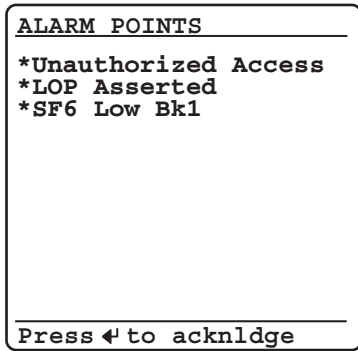

Figure 19 Sample Alarm Points Screen
*Figure 19* shows a sample alarm points screen. The relay can display as many as 66 alarm points. The relay automatically displays new alarm points while in manual-scrolling mode and in autoscrolling mode. You can configure the alarm points message and trigger it either immediately by using inputs, communications, or conditionally by using powerful SELOGIC control equations. The asterisk next to the alarm point indicates an active alarm. Use the front-panel navigation pushbuttons to clear inactive alarms.